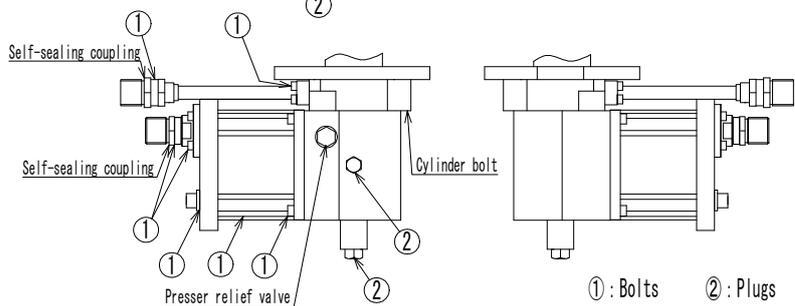

Figure 3 Bolt Location
**NOTE: Do not loosen all the fixed components such as the bolts, plugs, and pressure relief valve pointed by arrows in Figure 3 before discharging the helium gas. Ignoring this note may cause severe injury or equipment damage by flying components due to residual pressure.**